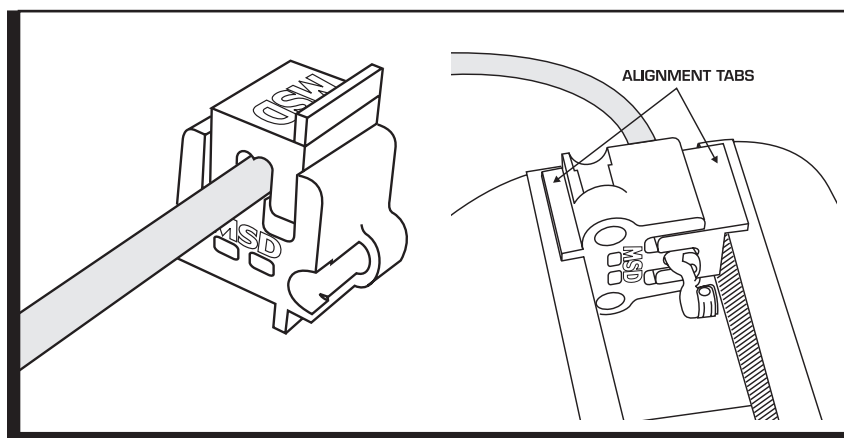

Figure 10 Crimping the Terminal.
4. Slide the other part of the Mini-Stripper-Crimper over the wire terminal and lightly press them together (Figure 10).
5. Put the assembly into a vise making sure the alignment tabs are on the outside edge of the vise jaws (Figure 10).